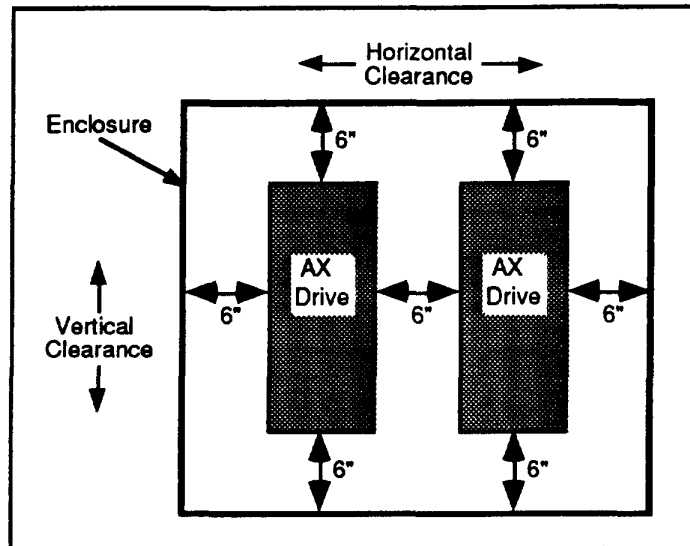

Figure 3-2. Panel Layout Guidelines
You should install the AX Drive system in an enclosure to protect it against atmospheric contaminants such as oil, moisture, and dirt (see Figure 3-2). The National Electrical Manufacturers Association (NEMA) has established standards that define the degree of protection that electrical enclosures provide. The enclosure should conform to NEMA Type 12 standards if the intended environment is industrial and contains airborne contaminants. If you mount the AX Drive in an enclosure, observe the following guidelines:
- The vertical clearance between the AX Drive and other equipment, or the top or bottom of the enclosure, should be no less than 6 inches (see Figure 3-2).